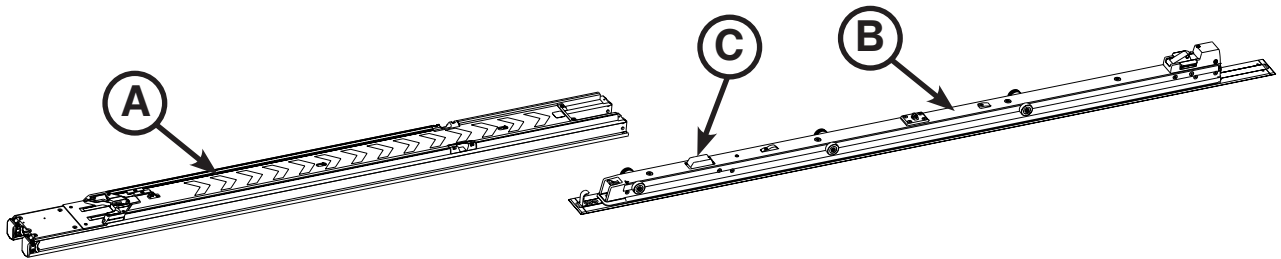

Figure 18: Install Transfer Assembly
3. Position the transfer assembly (A), so the open end is facing the anchor assembly (B) as shown in Figure 18.
When installing the transfer assembly, slowly slide the transfer assembly to avoid breaking the cot inductive charge housing (C) (as shown in Figure 18).